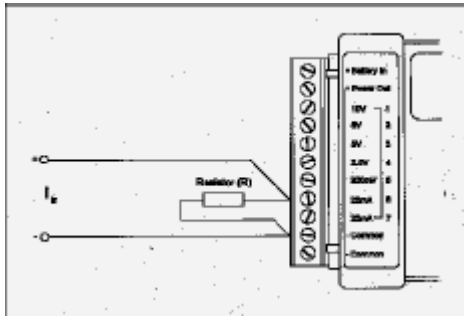

Figure 7-6: Modifying a 25mA Channel
The 25 milliamp channel can be modified to span higher ranges (greater than 25mA DC) by also adding a single resistor across the input terminals as shown in Figure 7-6. The value of the resistor (R) must be calculated by the following formula based on the desired current input range (I_{in}):